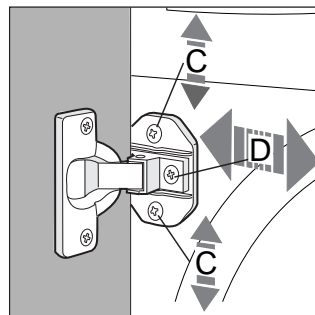

Fig. 7
- To adjust the position of the wooden panel in both the vertical and horizontal directions, use the **C** and **D** screws, as shown in fig. 7.